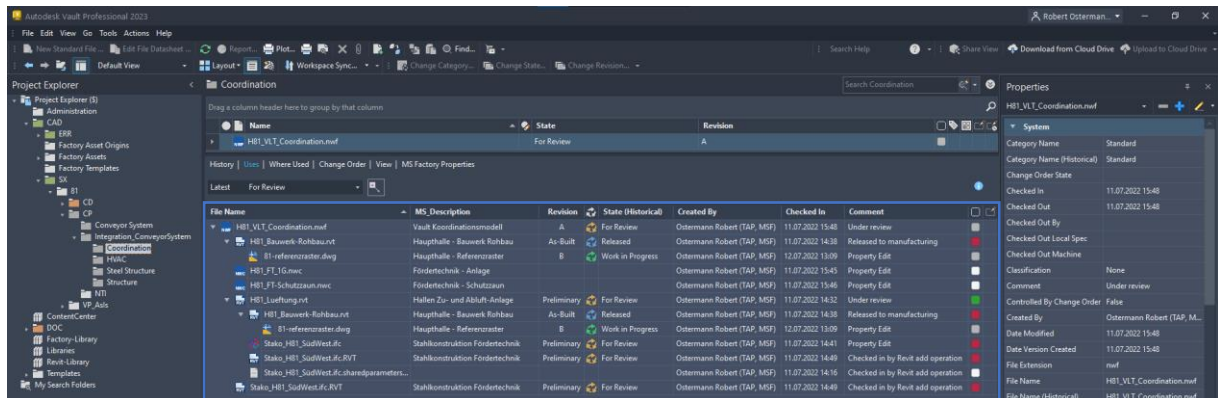

FIGURE 4: WHERE AND HOW FILES ARE USED IN COMBINATION WITH REVIT, NAVISWORKS AND OTHER CAD DATA
- Understand where and how your data is used, also in combination with Revit, Navisworks and other CAD data (see Figure 4)